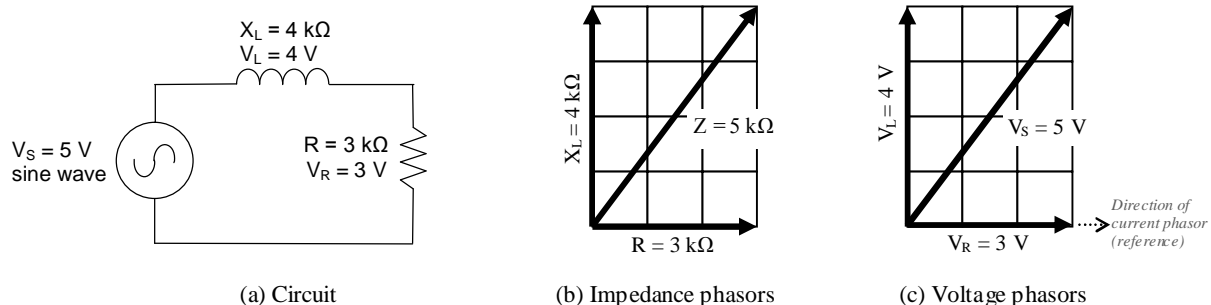
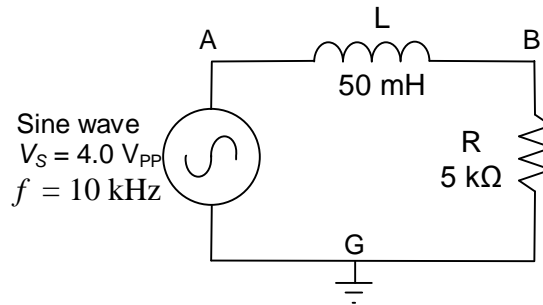

Figure 4.2
Figure 4.3: Series RL circuit
- (1) In your lab notebook sketch the circuit diagram to be used in the procedure.
- (2) Prepare tables to record the data.
- (3) Sketch the impedance and voltage phasors diagrams (as in Figure 4.2) you would get at 10 kHz for the circuit in Figure 4.3, using nominal values for the components. Make a table of the magnitudes and phase angles. You will use this to check that your experimental setup is correct.
Consider the series RL circuit shown in Figure 4.2(a). Graphical representations for the impedance phasors are shown in Figure 4.2(b). As with the series RC circuit, the total impedance of the series RL circuit is obtained by the vector sum of the impedance phasors. (Because the vectors are in the complex plane, this summation can also be done equivalently by summing the complex numbers.)
through the resistor for the phase reference direction. Multiplying the impedance phasors by the current gives the voltage phasors, as shown in Figure 4.2(c).
4. Construct the circuit shown in Figure 4.3. With the circuit connected, adjust the function generator's frequency f to 10 kHz with an output voltage of 4.0 V_{pp}. Record the actual values of f and V_S (generator).
11. Using the values listed in the table, draw a diagram of the impedance phasors and a second diagram of the voltage phasors, as illustrated in Figure 4.2 of the Background section of this laboratory experiment.